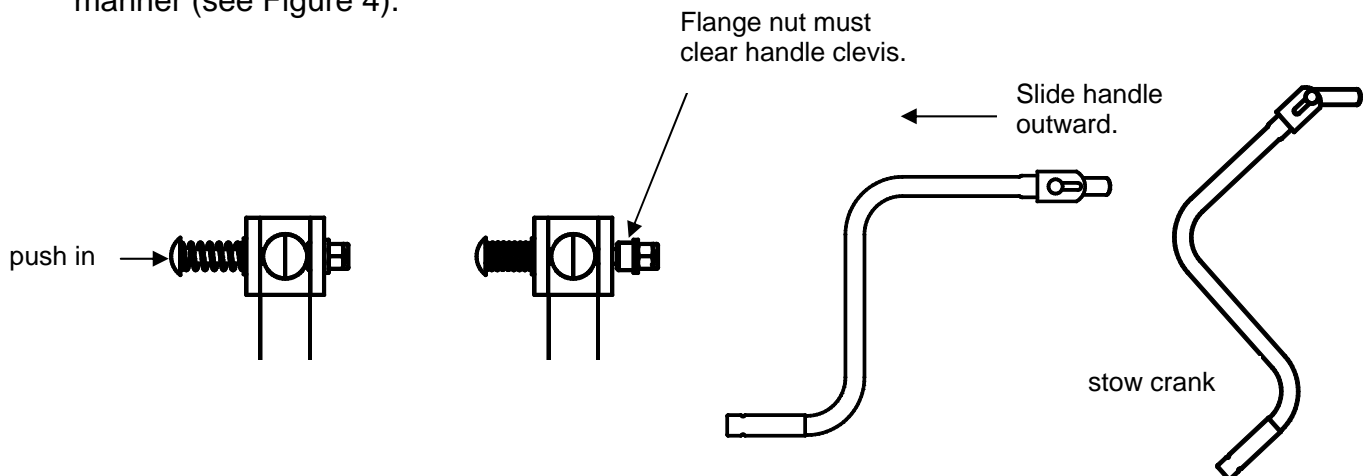

FIGURE 4
2. To release the latching crank, simply push on the rounded end of the carriage bolt until the flange nut is clear. Then, pull the crank outward and stow the handle in the usual manner (see Figure 4).